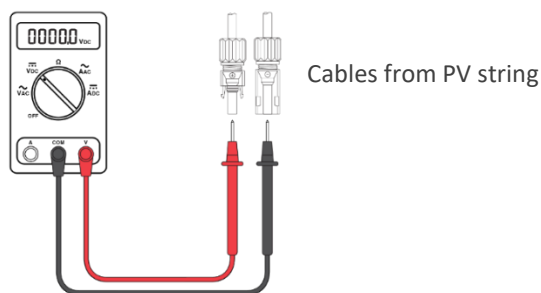

Figure 12: Check the polarity and gender for the PV string connecting to the Input
7. Follow your procedures and safety protocols to measure the voltage and verify the polarity for the string of modules being connected to Input A. See Figure 12.